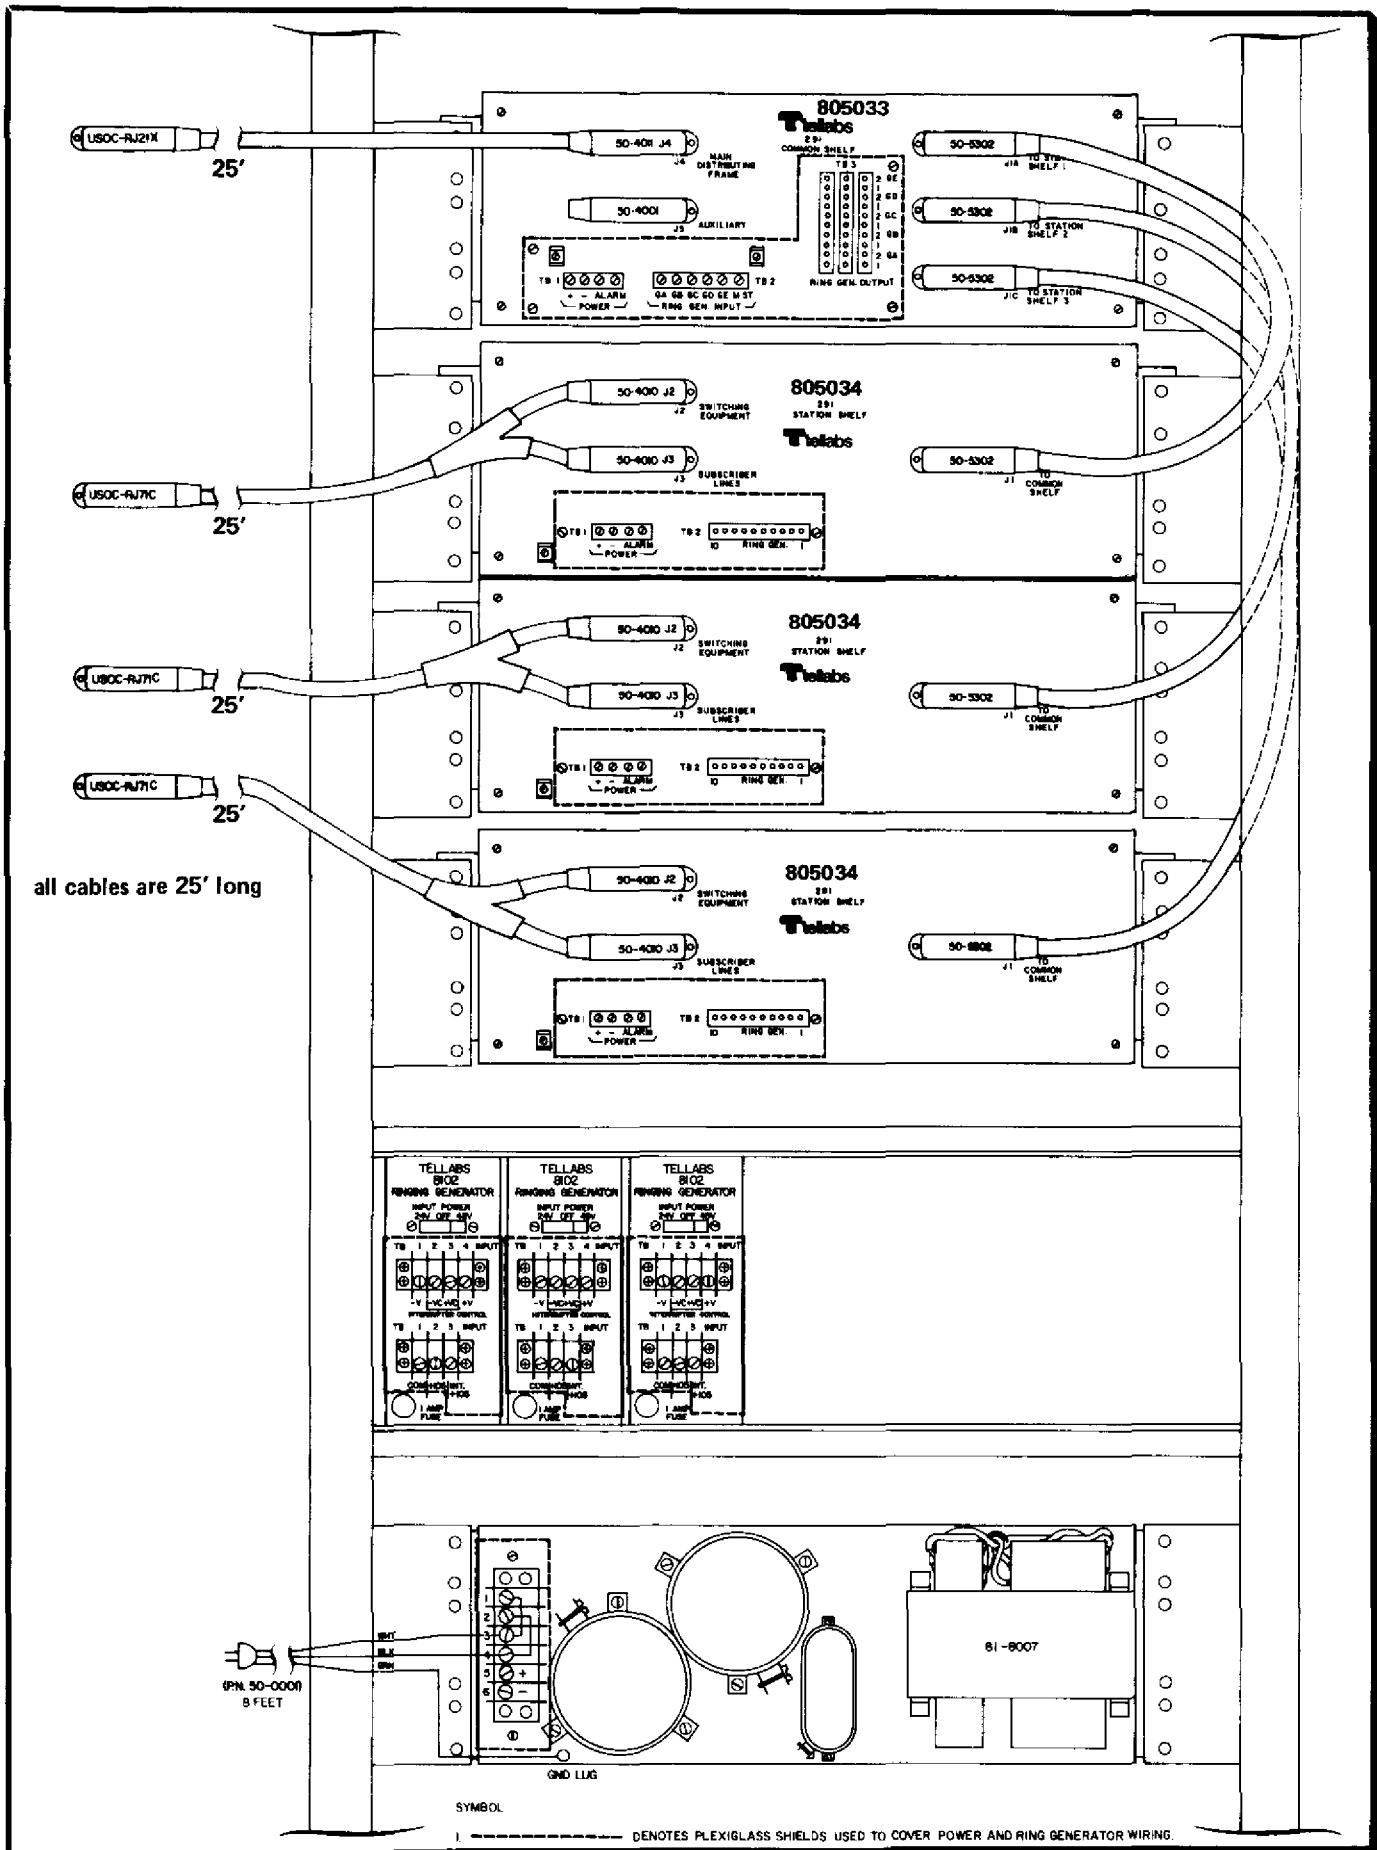

figure 2. 291R System, rear view, showing equipment arrangement
4.04 The most common 291R System arrangement is shown in figure 2. The uppermost shelf is the 80-5033 common equipment shelf followed immediately below by one, two, or three (depending upon the number of conference stations re-